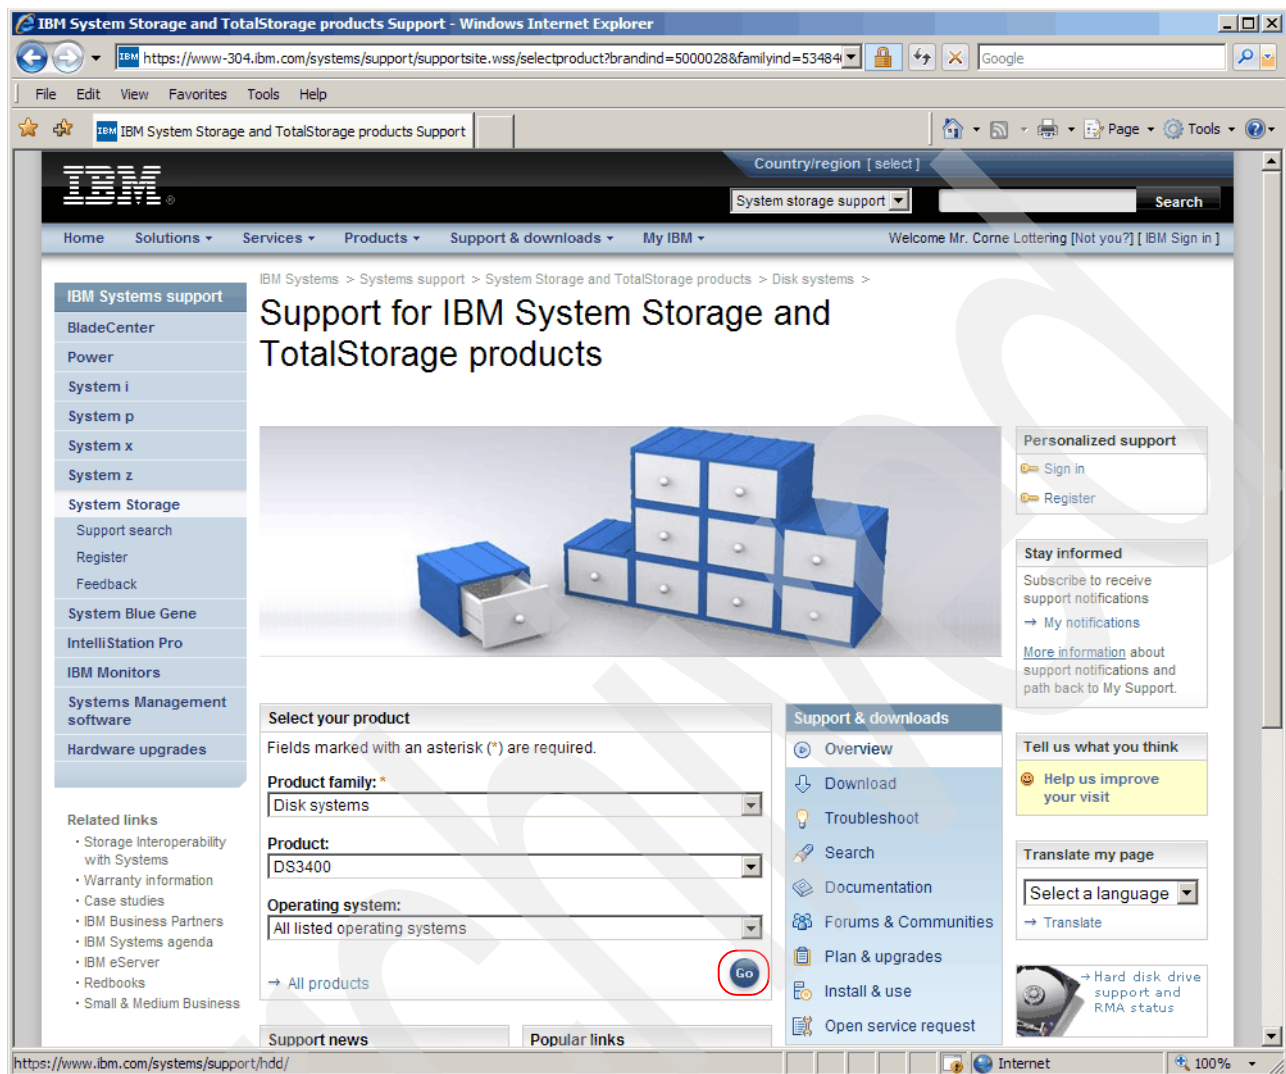

Figure B-4 IBM Support - Go
4. Click the **Go** button, as shown in Figure B-4.